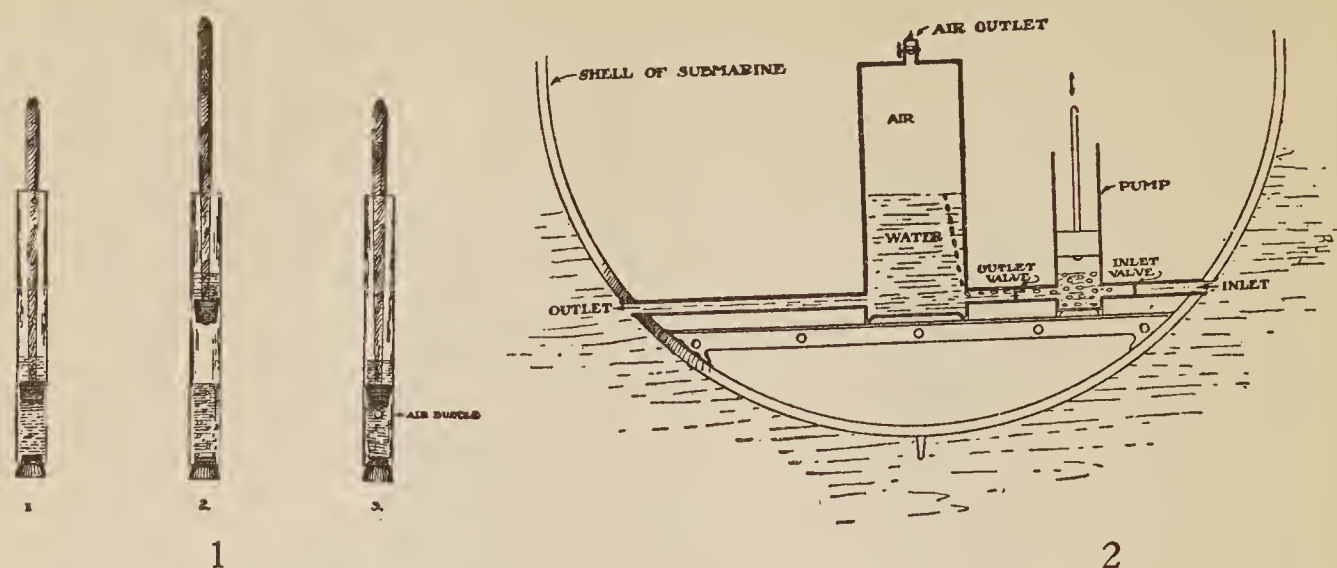

Fig. 180.—Showing How a Submerged Submarine could take Air from Sea Water
Arrange the apparatus as in (1) Fig. 180. The space between the stoppers is completely filled with water and is free from air; the plunger is covered with water to make it air-tight.